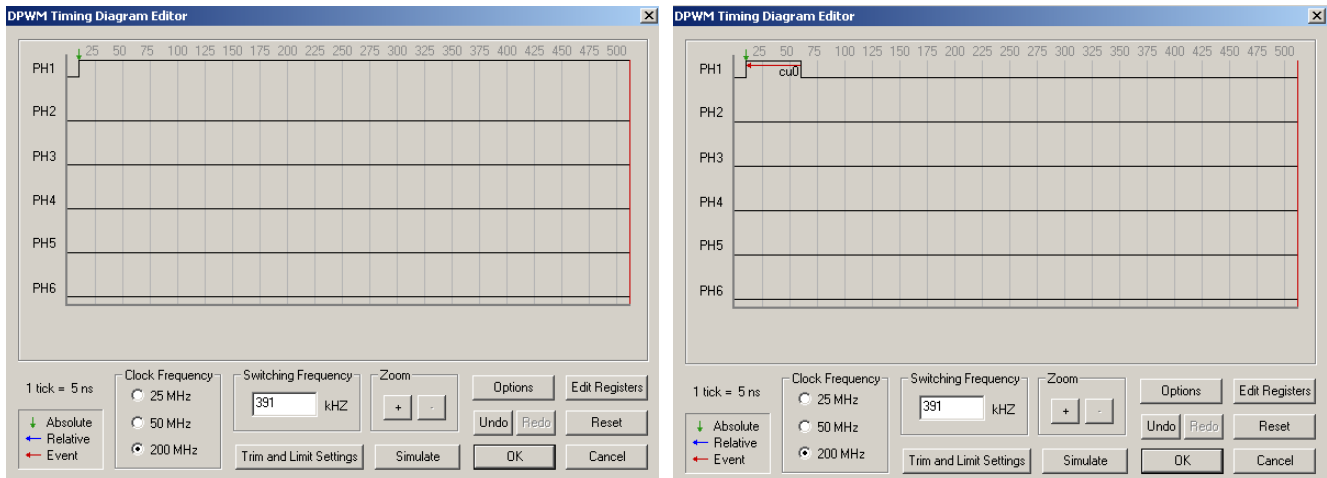

Figure 9. DPWM Timing Diagram Editor—Phase 1
2. To create an absolute edge on Phase 1, hold the mouse above the Phase 1 zero timing line (default) at time tick 10. Then, either double click with the left mouse button or right-click at that point and select **Absolute Edge**. An absolute edge at time tick 10 will be created (see Figure 9).
3. To finish the timing for Phase 1, specify hardware modulation using (**Cu0**). This event edge will be modulated relative to its absolute edge at time tick 10. To create this edge, hold the mouse above the Phase 1 timing line to the right of time tick 10 at time tick 60. Either double-click or right-click at that point and select **Event (Cu0) Edge**. Next, select the edge to reference by clicking on edge 1 in Phase 1. A relative falling (Cu0) edge will be created at time tick 60 since u(n) defaults to 50 (see Figure 9).